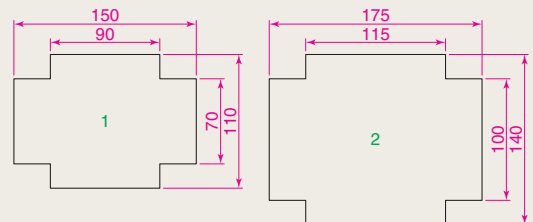

Fig. 5.55 Exercise 9
- Construct the left-hand drawing of Fig. 5.55. Include the dimensions in your drawing. Then, using the **Stretch** tool, stretch the drawing, including its dimensions to the sizes as shown in the right-hand. The dimensions are said to be **associative**.